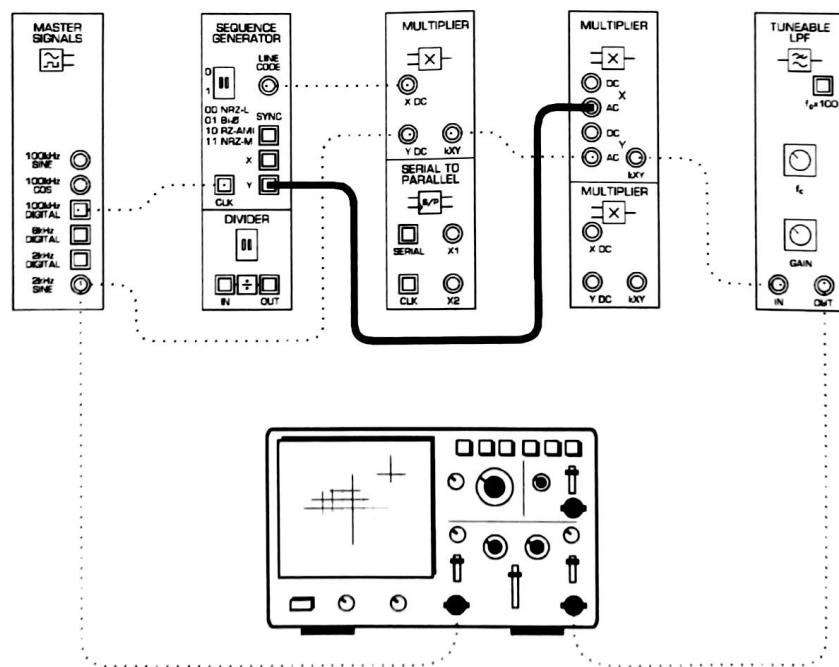

Figure 7
21. Modify the set-up as shown in Figure 7 below to make the demodulator's local carrier a different PN sequence to the transmitter's carrier.